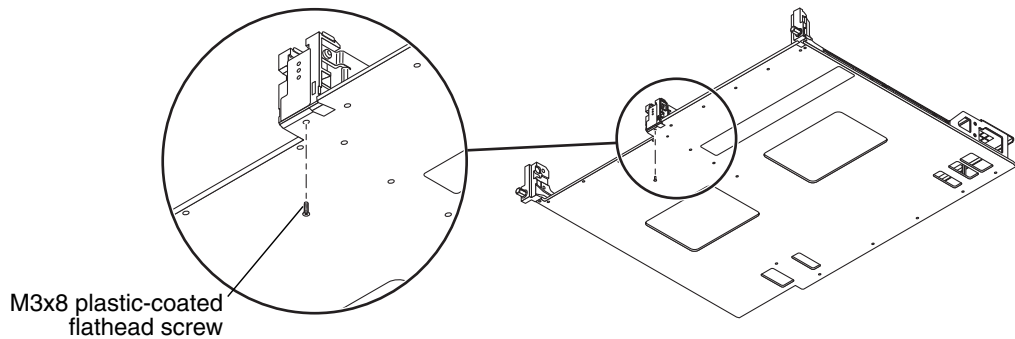

FIGURE 10-4 Securing the Center Guide Bracket After the T-Rail Guide Removal
4. Install one (1) M3x8 flathead plastic-coated screw from the FRU package to secure the center guide bracket to the new carrier plate (FIGURE 10-4).